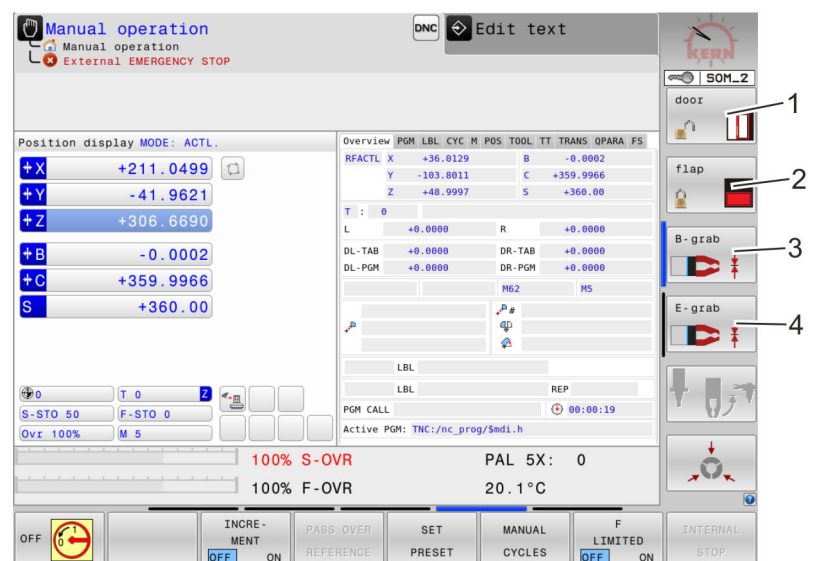

Fig. 92: Service menu
2. ➤ Press the *[lock/unlock work area sliding door]* softkey (Fig. 92/1).
3. ➤ Press the *[open/close tool changer flap]* (Fig. 92/2) softkey.
4. ➤ Press the *[open/close loading gripper]* (Fig. 92/3) softkey.
5. ➤ Press the *[open/close unloading gripper]* (Fig. 92/4) softkey.